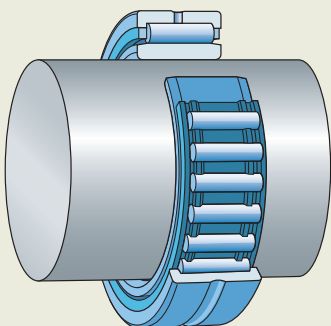

Fig. 15
- are an excellent choice for compact bearing arrangements if the shaft can be hardened and ground (**fig. 15**)